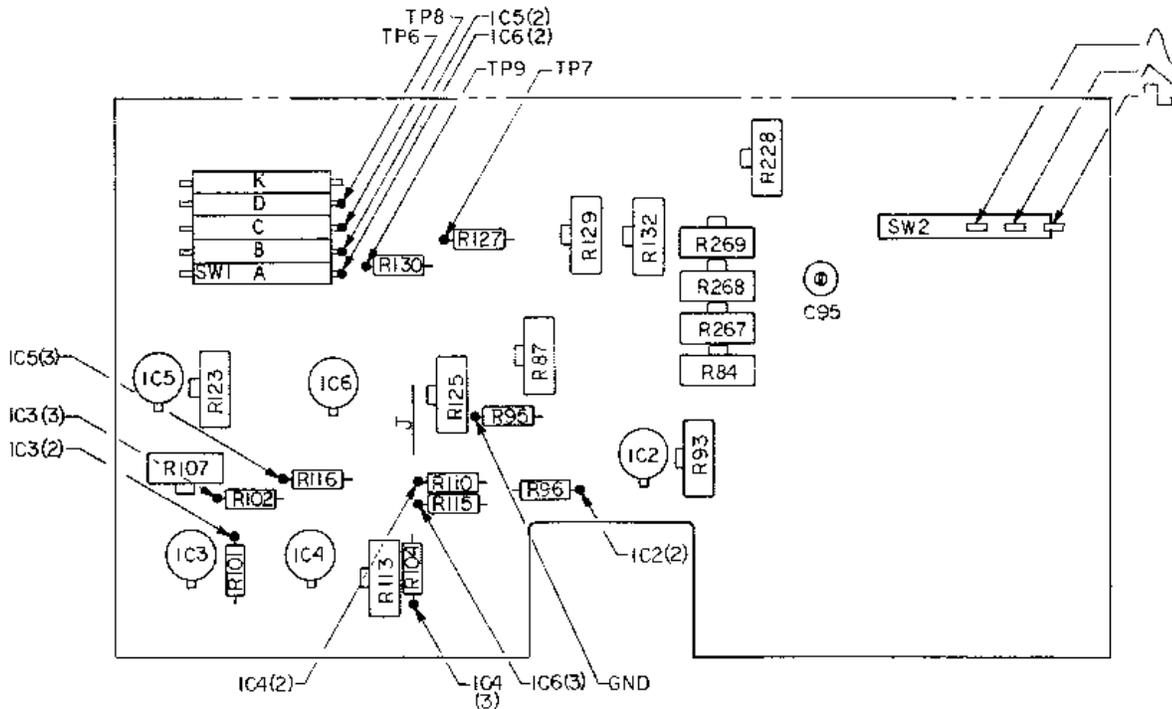

Figure 4-4 - Main Board Test & Calibration Points
- Set the voltage between IC3(2), and IC3(3) to 0 Vdc \pm 100 μ V, using R107. See Figure 4-4.
- Set the voltage between IC4(2), and IC4(3) to 0 Vdc \pm 100 μ V, using R113.
- Set the voltage between IC5(2), and IC5(3) to 0 Vdc \pm 100 μ V, using R123.
- Set the voltage between IC6(2), and IC6(3) to 0 Vdc \pm 100 μ V, using R125.
13. With FREQ DIAL still fully clockwise, set the voltage between IC2(2) and ground (at R95) to 0 Vdc $\pm 100 \mu\text{V}$, using R93.
17. Connect the oscilloscope probe (a type W or 1A5 plug-in module should be used with the scope) to \wedge position of the WAVEFORM selector switch, SW2, see Figure 4-4.
20. Set 30 V P-P MAX control to 3/4ths of full CW, and connect oscilloscope probe to \sim position of the WAVEFORM selector switch (SW2), see Figure 4-4.